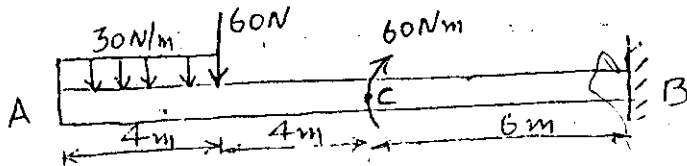

Fig.4
- IV a) Draw the Shear Force and Bending Moment diagrams for the loaded beam shown in Fig.4. (8)